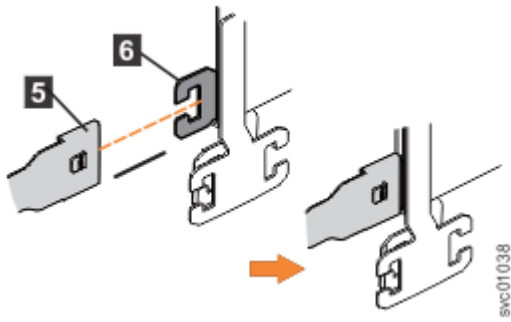

Figure 54. Attach the support rail connector of the upper CMA to the right support rail
4. Attach the support rail connector on the upper CMA assembly (5) to the connector base on the right support rail (6), as shown in Figure 54 on page 57.